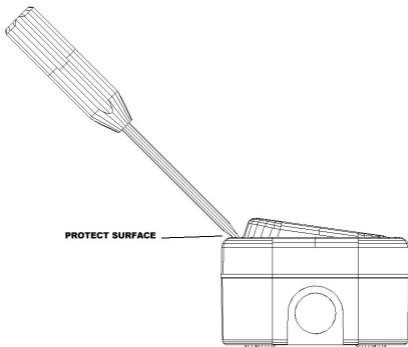

Fig 1
- To remove rockers from WPL range prise off using a flat blade screwdriver (figure 1). Use a piece of cloth or similar to prevent marking the unit. This allows access to the four fixing screws.